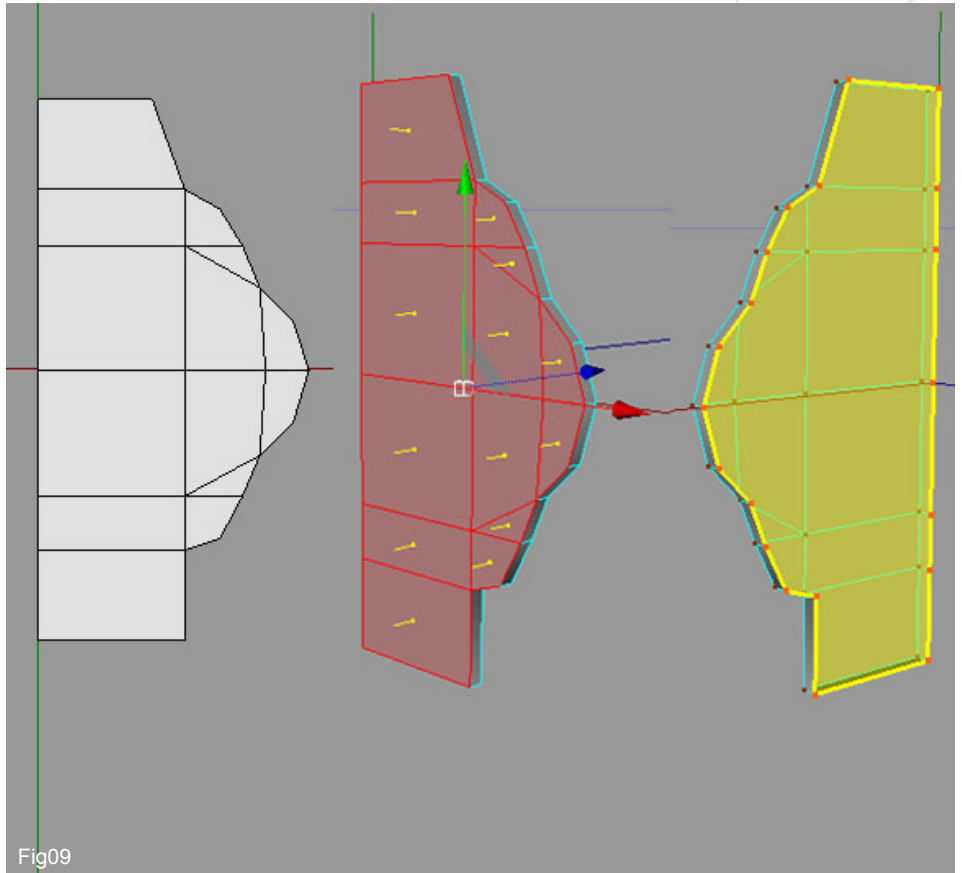

Fig09
9. Next step is to create the final piece of the armour. So create a shape similar to the one on the right of Fig09 which you can do either by creating a Polygon object. Then Extrude all faces of the object and then re-build the back by using "Close Polygon Hole " tool and then "Knife" tool to obtain the same cuts as the front of the object.